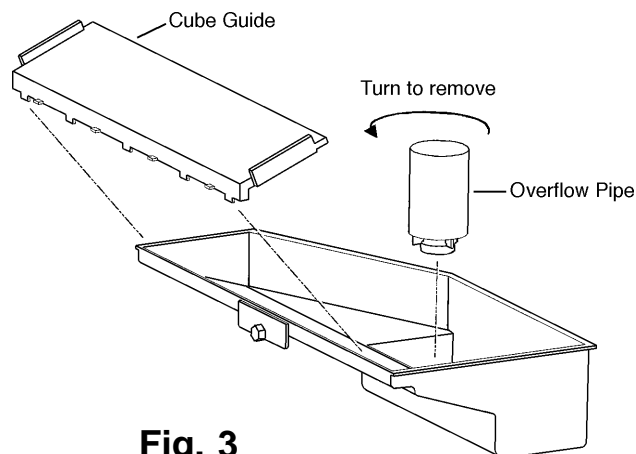

Fig. 3
- 4) Remove the Cube Guide and the Overflow Pipe to drain the Water Tank. See Fig. 3
- 5) Remove the Cube Guide and the Overflow Pipe to drain the Water Tank. See Fig. 3. Place the Overflow Pipe in position.